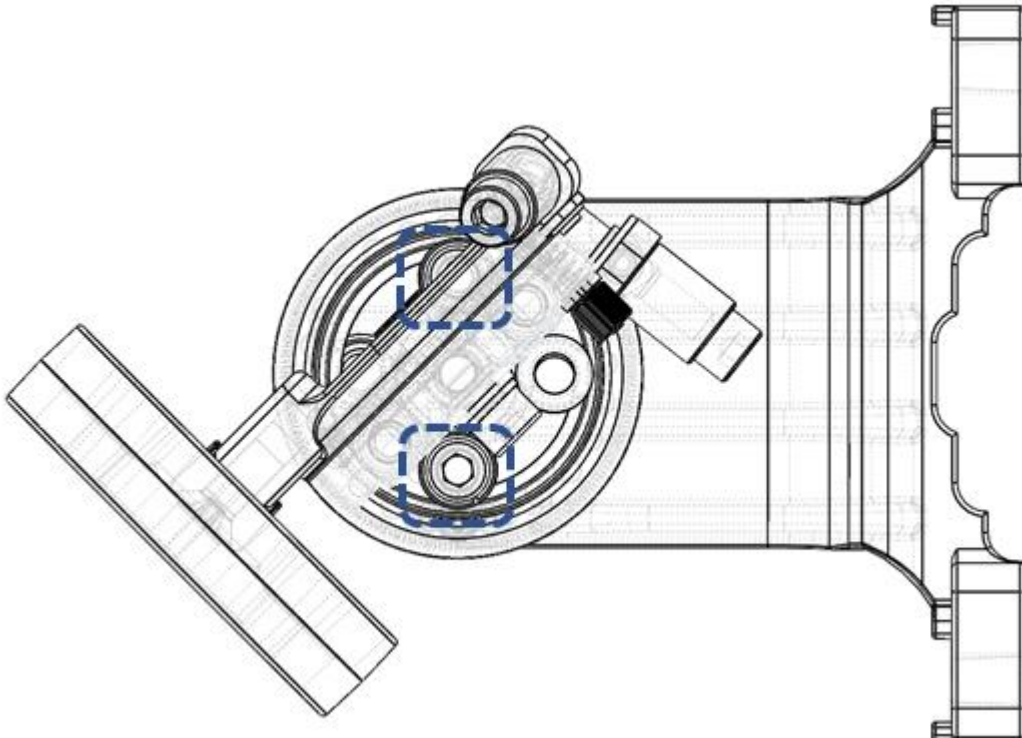
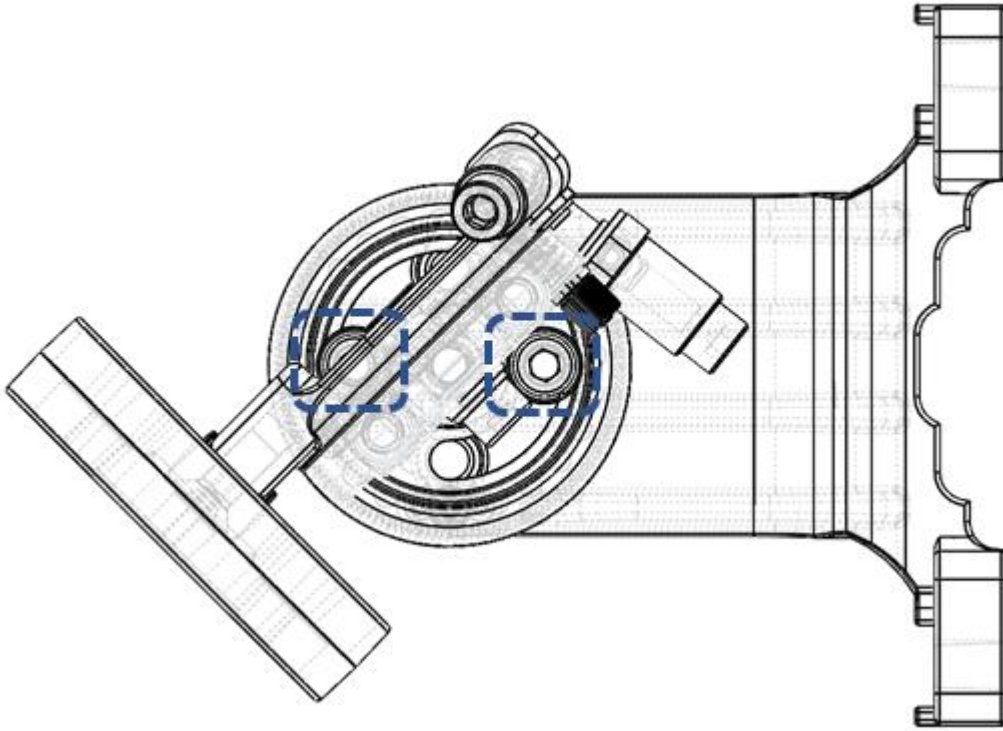

Figure 37: Azimuth Screws – Top View (Azimuth 45° to the Right)
Figure 39: Azimuth Screws in New Placement - Top View (Azimuth  $45^\circ$  to the Right)
3. Insert the Azimuth Screws in the holes opposite their previous locations. For example, if you are adjusting the azimuth to the left, move the Azimuth Screw to the left of the device from the left hole to the right hole and move the Azimuth Screw to the right of the device from the right hole to the left hole, as shown in **Figure 37** and **Figure 39**. This will place the azimuth at an angle of  $45^\circ$  to the left or  $45^\circ$  to the right.